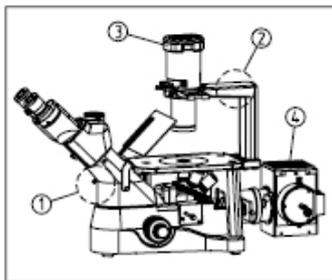
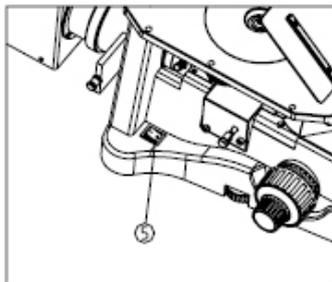

Figure 1
Figure 2
- (1) As the microscope is a precision instrument, always operate it with care, avoiding physical shake during the operation.
- (2) Do not let the microscope emerge in the sun directly, either not in the high temperature, damp, dusty or acute shake place. Make sure the worktable is horizontal. Following environment is required: Indoor temperature: 5°C~40°C, Max relative humidity:80%.
- (3) When moving the microscope, you should use both hands to hold 1 and 2 as shown on figure, and lay it down carefully. (Figure 1)
- (4) Fluorescence microscope should be used under dark environment.
- (5) In order to protect eyes, do not stare at fluorescence light directly.
- (6) The bulb should be vertical under using, the inclined angle should be less than 15 degrees, otherwise it will make bulb damage.
- (7) Fluorescence sample will be faded by ultraviolet radiation, so it can not for long save. Do not expose the sample under fluorescence light for long time, it will be quenched.
- (8) When working, the surface of the lamp holder 3 and bulb house 4 will be very hot. Make sure there is enough space (especially its above) for the heat dissipating. (Fig. 1)
- (9) Connect the microscope to the land to avoid lightning strike.
- (10) Make sure the switch 5, 6 are at "o" position, cut off power supply and wait all parts cool down before replace bulbs, fuse the fuse. It would be better to do so after cooling the bulb and the lamp holder. (Fig. 2, 3)